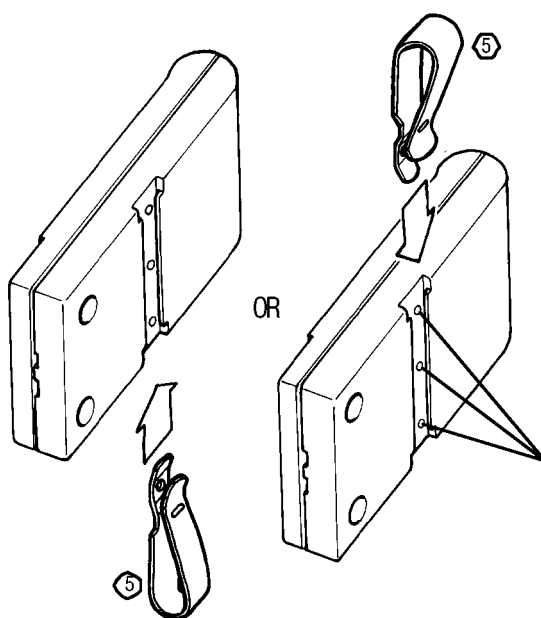

Figure 4: Using the Visor Clip
- Use the visor clip (5) to mount your display on a visor or door pocket. Install the clip on the top or bottom of the display to orient the display as you wish (Figure 4). Push the clip in until the 3rd bump engages.